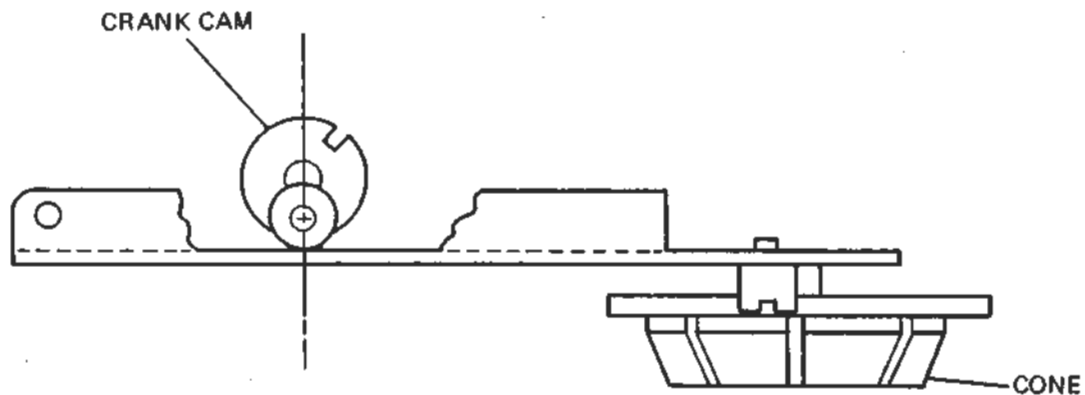

Figure 2-11B. Eject Motor Cam Alignment Check - Carrier Closed
- c. Observe the crank cam moves to a bottom dead center position relative to the carrier plane, i. e. , maximum penetration of cone assembly into hub. (Figure 2-11B.)